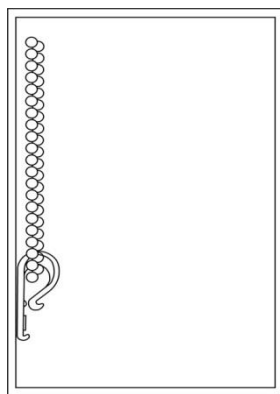
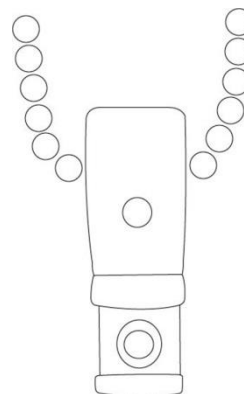

Figure 1
Figure 2
Insert the idle mechanism into the idle bracket (part B) (figure 1) so it is engaged. Carefully align the chain control mechanism with the control bracket (part A) (figure 2) (this is the one with the cross). Push the blind into the Control Bracket, ensuring the chain is hanging directly down. Hook into place with a gentle downward motion. Repeat this process for the second Roller Blind.
1. Position the tension device at the bottom of the chain loop (Figure 1)
2. Install the tension device onto the reveal/frame, making sure that the loop chain hangs with minimal tension (Figure 2)